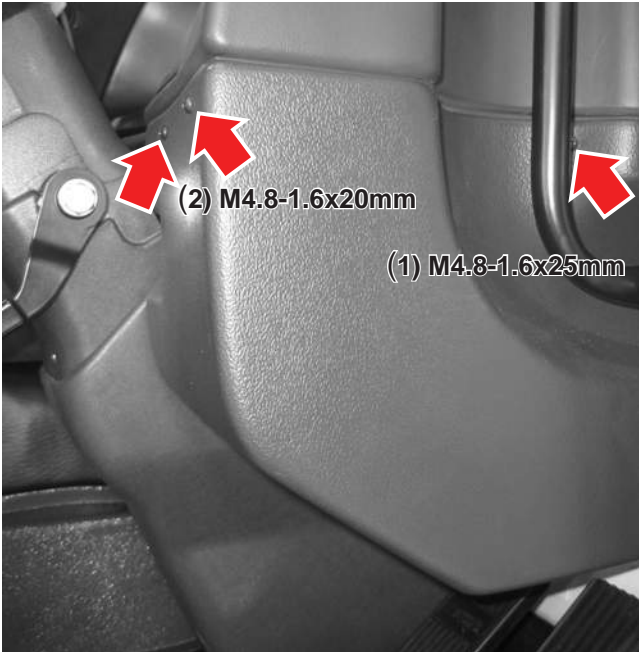

Figure 1-1
1. Remove the three sheet metal screws and set aside for reinstallation (see Figure 1-1).
2. Remove the trim panel and set aside for reinstallation (see Figure 1-1).